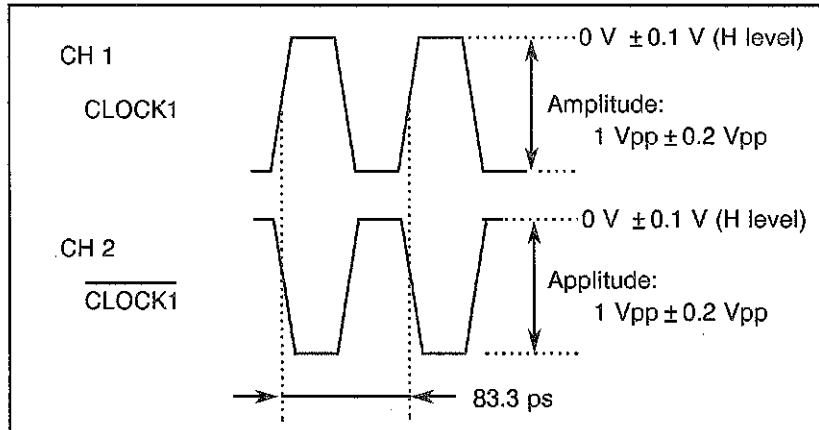

Figure 8-9 CLOCK1,  $\overline{\text{CLOCK1}}$  Output Waveform (TO 0V,  $f = 12000\text{ MHz}$ )
- (7) Confirm that the waveform is a rectangular wave as shown in Figure 8-9.